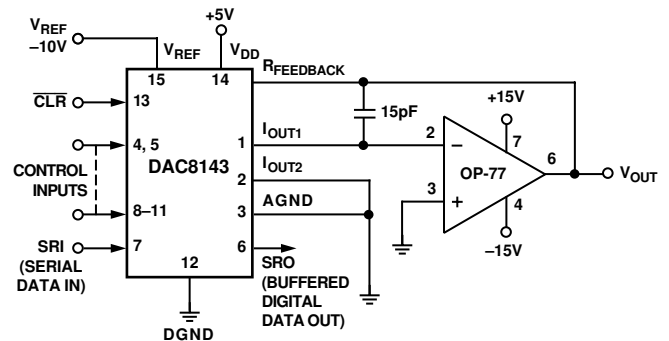

Figure 16. Unipolar Operation with High Accuracy Op Amp (2-Quadrant)
1. Phase compensation (see Figures 16 and 17).
The circuit shown in Figures 16 and 17 may be used with an ac or dc reference voltage. The circuit's output will range between 0 V and +10(4095/4096) V depending upon the digital input code. The relationship between the digital input and the analog output is shown in Table II. The  $V_{REF}$  voltage range is the maximum input voltage range of the op amp or  $\pm 25$  V, whichever is lowest.
1Nominal full scale for the circuits of Figures 16 and 17 is given by
2Nominal LSB magnitude for the circuits of Figures 16 and 17 is given by